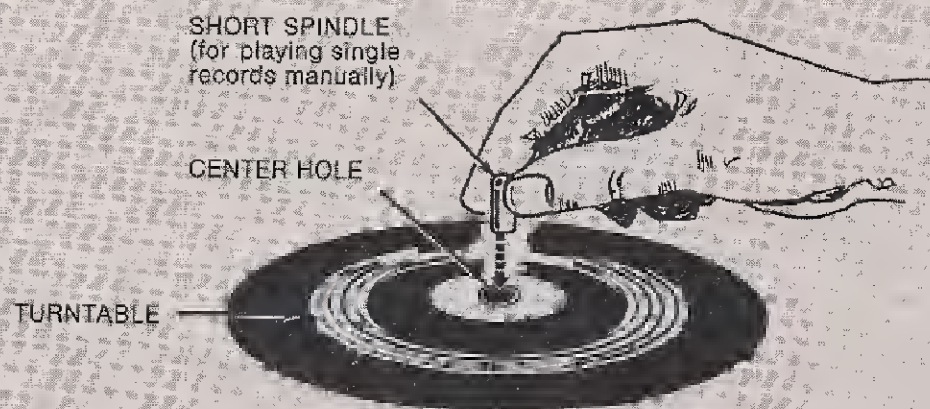

Figure 6
- hand.) Insert short spindle in hole. See Fig. 6.